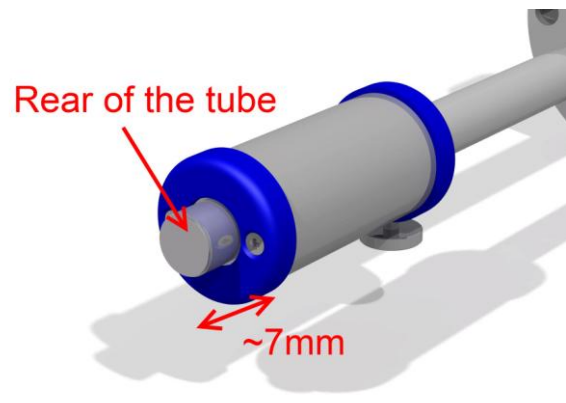

Fig 27 Correct alignment
- Pull back until the outer magnet coupling is positioned as shown in figure 27.